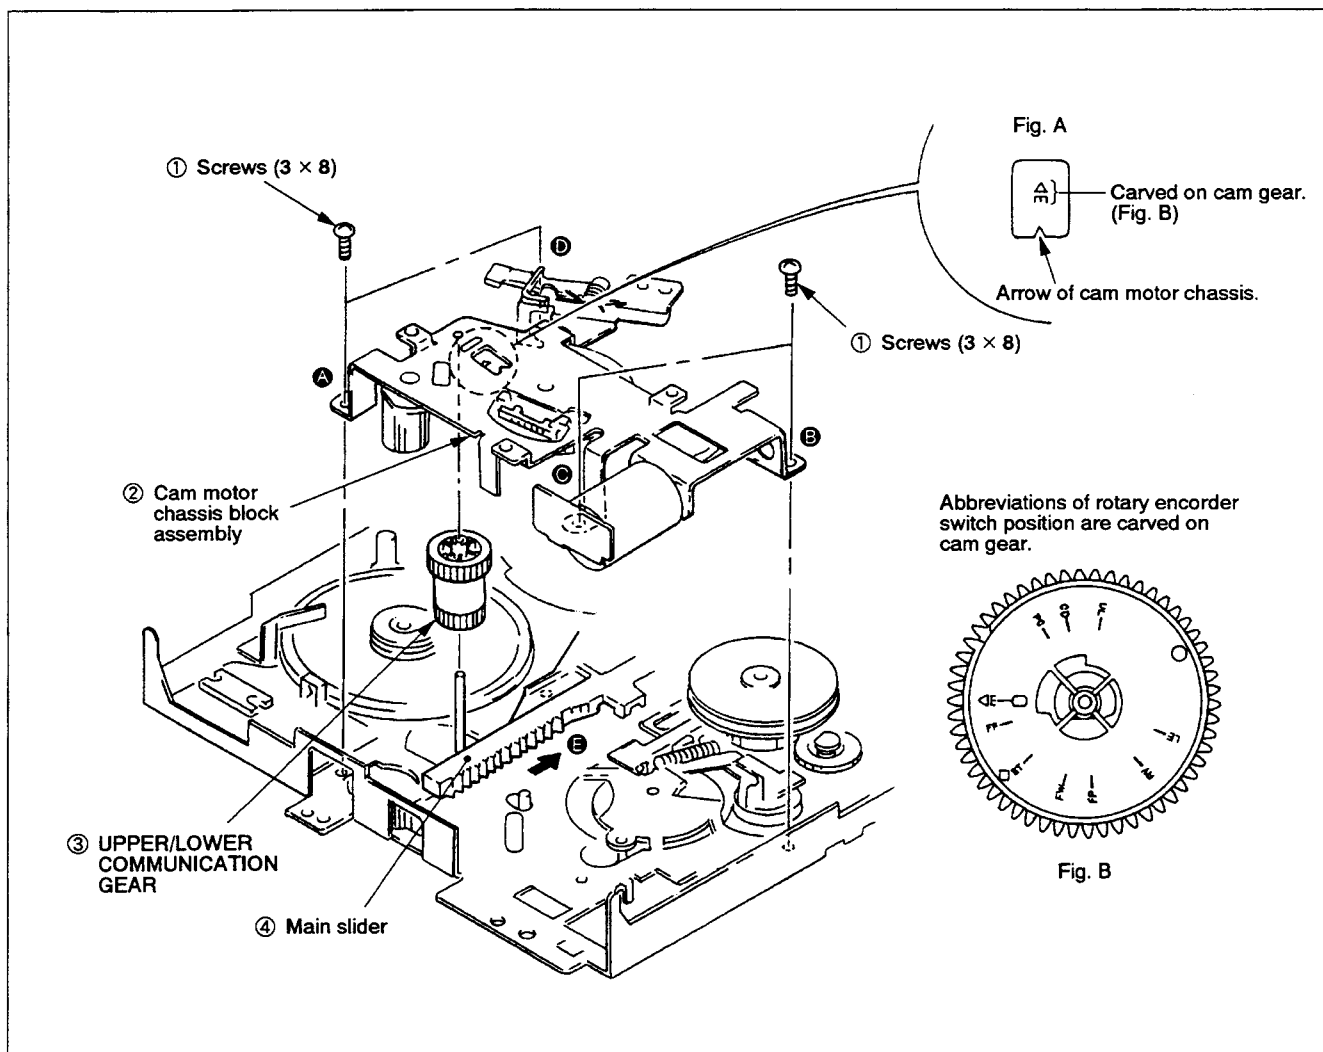

Fig. 3-18
### 3-16. CAM MOTOR CHASSIS BLOCK ASSEMBLY, UPPER/LOWER COMMUNICATION GEAR (Fig. 3-18)
- 1) Set the mechanism to the loading-end condition referring to 1-1. (Cam gear indicates "LE". (Refer to Fig. A and B of Fig. 3-18.))
- 2) Remove tension spring ① in the order A to B.
- 3) Remove stopper washer (2) ② to pull out TG1 assembly ③.